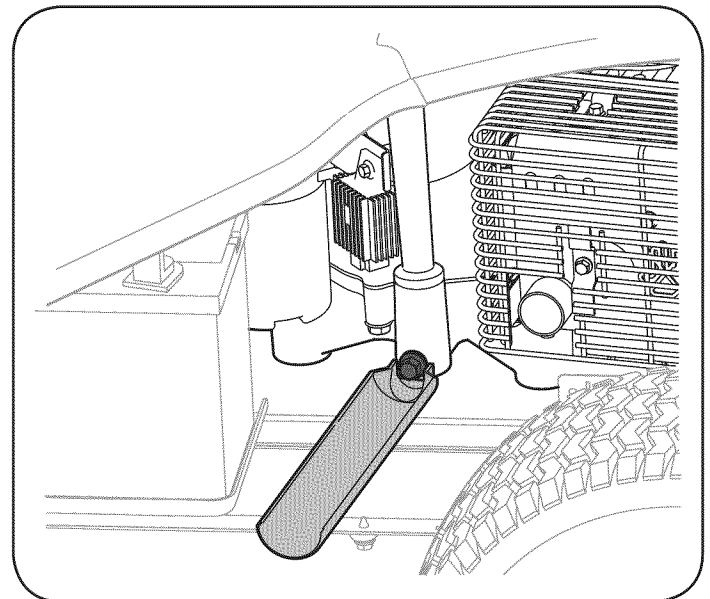

Figure 20
2. Snap the small end of oil drain sleeve onto the oil sump. See Fig. 20.